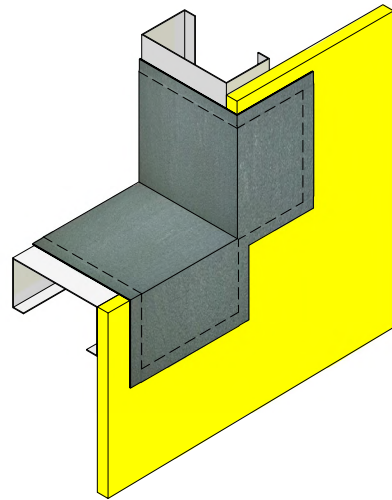

Figure 7
3. Apply additional Senershield-R/-RS/-VB onto the Sheathing Fabric to completely saturate and embed. Verify Sheathing Fabric is smooth, free of wrinkles and voids. (See Figure 7)